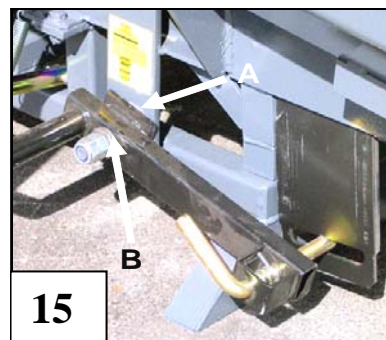

Fig. 15. Manual adjustment of the splitting wedge
5.4 Manual adjustment of the splitting wedge, Figure 15